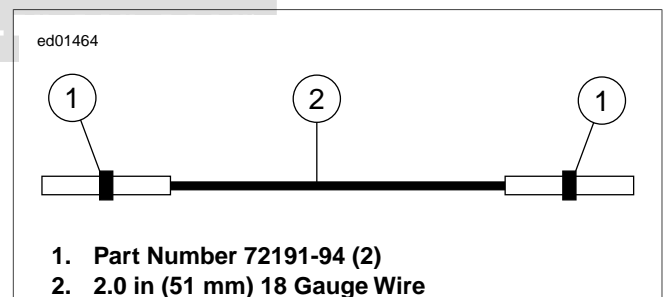

Figure 2-6. Diagnostic Test Wire
- a. See Figure 2-6. Install diagnostic test wire from parts shown.